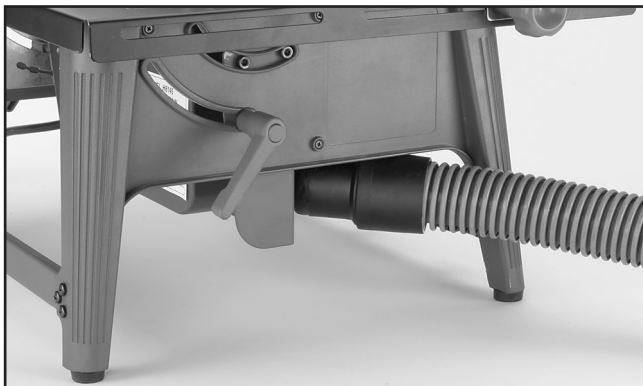

Figure 4. Dust hose attached to dust port.
1. Fit a 1½" dust hose over the dust port, as shown in **Figure 4**, and secure in place with a hose clamp.